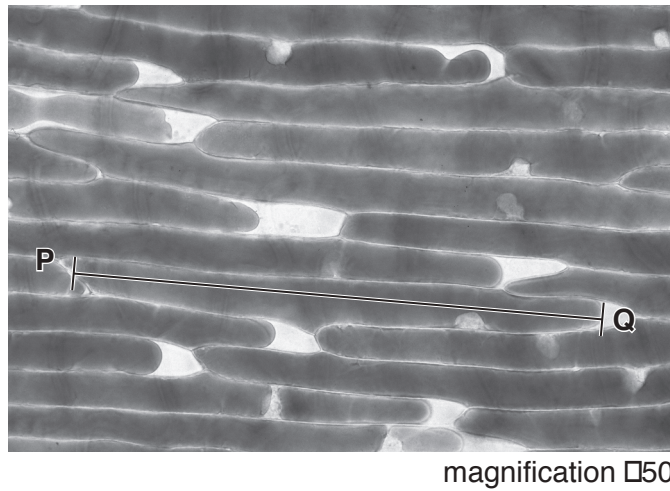

Fig. 2.2
Fig. 2.2 shows red onion cells, viewed through a microscope, that have been immersed in a weak salt solution.
Measure the observed maximum length of the vacuole shown by the line **PQ** on Fig. 2.2.
- (b) State **one** visible similarity between the cells in Fig. 2.1 and the cells in Fig. 2.2.